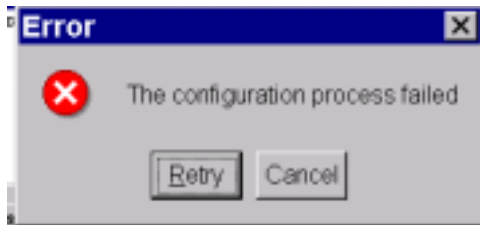

Figure 16 Error Message
21. If an error message appears regarding the configuration process failing, select “Cancel” on the error message window. See Figure 16.